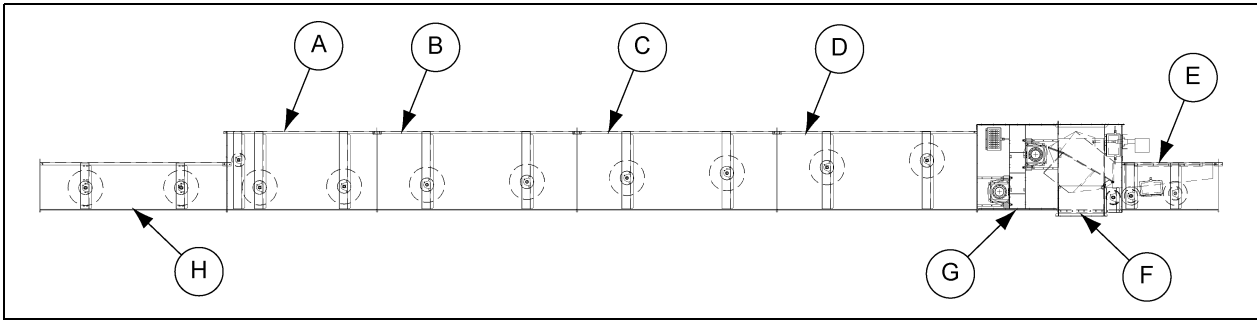

Figure 4AA Tripper Assembly
Each tripper consists of a total of seven (7) sections strategically placed in the middle of a conveyor. Installation procedures are the exact same as conveyor assembly on Page 17. Figure 4AA shows the layout of the sections. The special short section before the tripper helps to ensure proper spacing of the tripper and the intermediate discharge. The next four (4) sections are the “A” through “D” sections of the tripper knee. When assembled in order, the knee sections change the height of the belt, raising it as it approaches the actual tripper section which follows directly behind. 48" and 54" wide conveyor assemblies also include an “E” knee section which pushes the total number of sections to 8 for those sizes. Similar to the smaller conveyor widths the “E” section will follow directly behind the “D” section and just ahead of the tripper section.